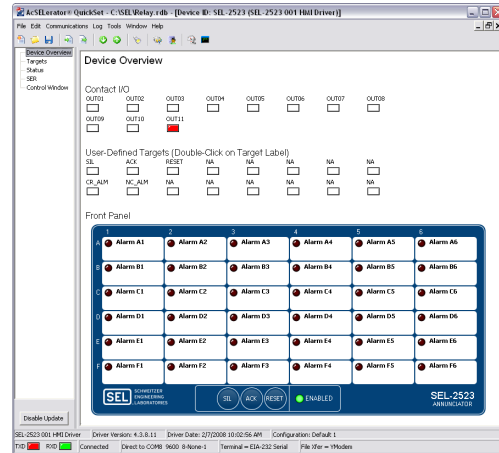

Figure 7 View Device Overview Display With acSELEATOR QuickSet Software
- Operate and monitor the device remotely from a virtual front panel (see *Figure 7*)